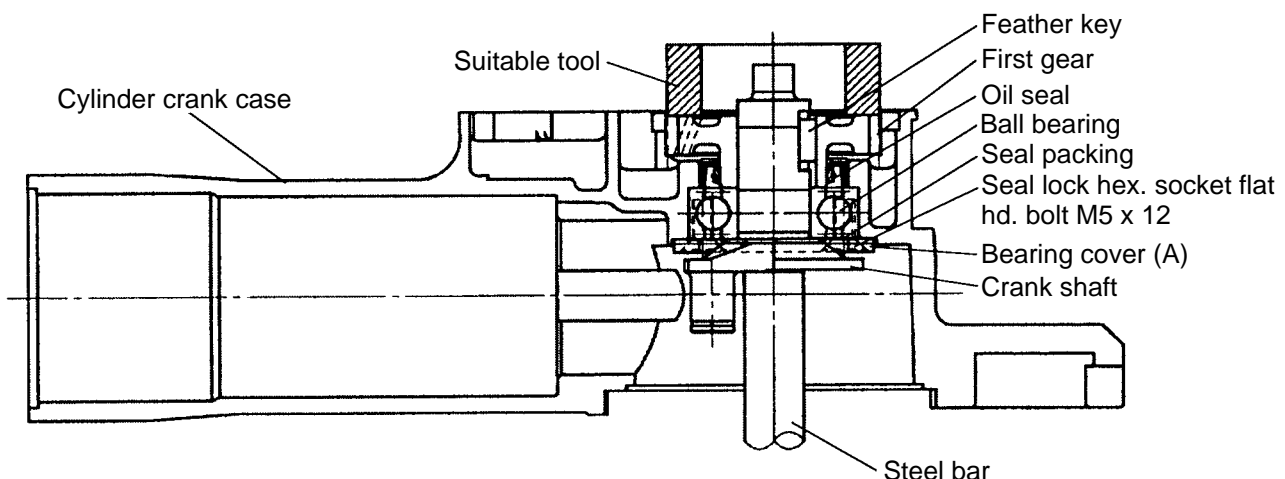

Fig. 15
Press-fit the Ball Bearing [43] in the Cylinder Crank Case [45] and fix Bearing Cover (A) [41] and Seal Packing [42] with the two Seal Lock Hex. Socket Flat Hd. Bolts M5 x 12 [40]. Press-fit the Crank Shaft [38]. Then mount the Oil Seal [44]. Put the Feather Key [39] into the groove of the Crank Shaft [38] and press-fit the First Gear [50] with a suitable tool while holding the flat portion of the Crank Shaft [38] with a steel bar. Before press-fitting, make sure that the Feather Key [39] fits in the key groove of the First Gear [50] (Fig. 15).